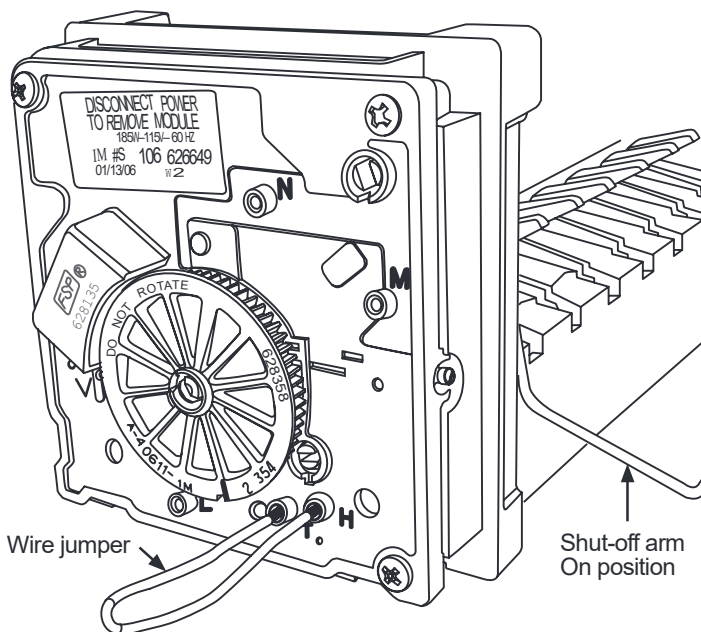

Figure 10-9. —Cycling the ice maker manually.
4. Jump test points T and H. See Figure 10-9, page 82